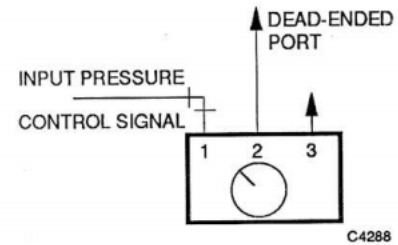

Fig. 22. RP922A Typical Adjustable Pressure Supply Application.
- In the application shown in Figures 22 and 23, the RP922A provides an adjustable pressure from 10 to 90 percent of the pressure at Port 1.